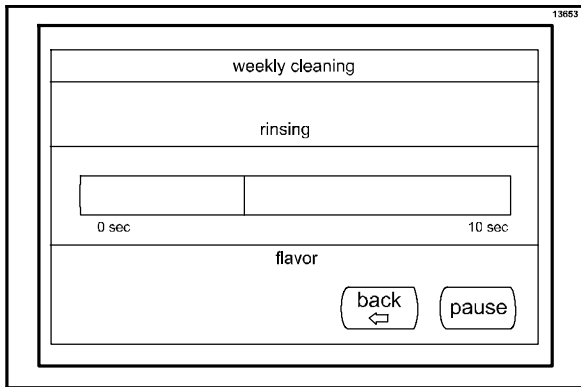

Figure 94
41. Press the NEXT key to start the rinse cycle. The unit will automatically start and stop pumping rinse water through the systems. (See Figure 94.)